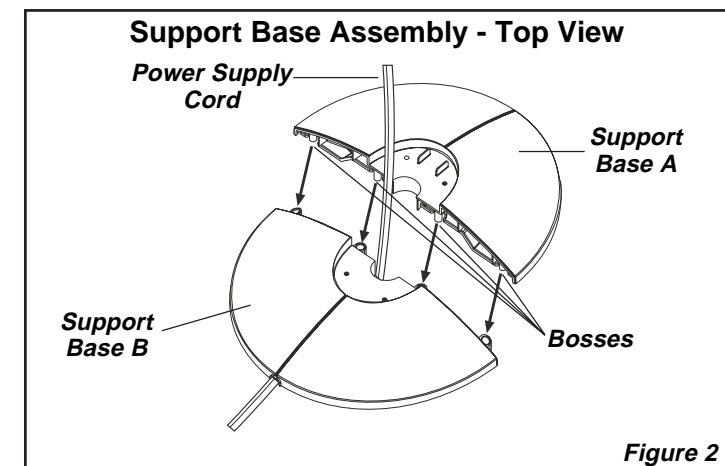

Figure 2
4. Assemble the Bases by interlocking the **Bosses** on **Support Base A** into the **Boss Holes** on **Support Base B**. Thread the **Power Supply Cord** through the large hole in the center of the Support Base Assembly. (Figure 2)